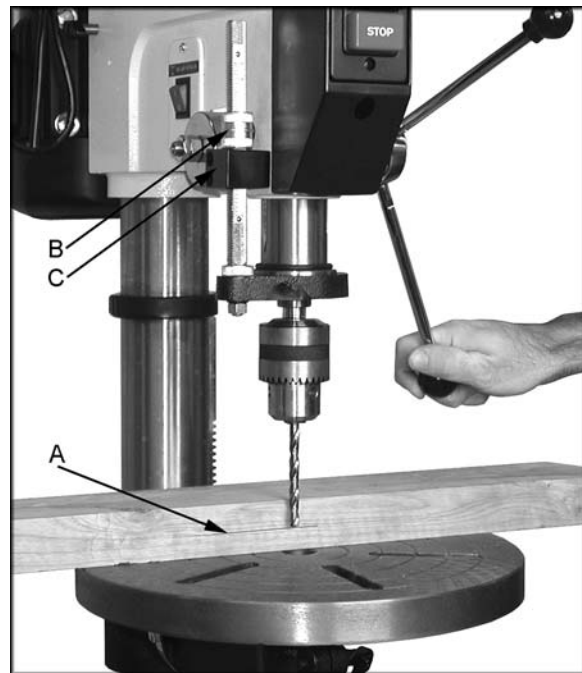

Figure 7
1. Use a pencil to mark the depth the bit will drill into the workpiece (A, Figure 7).
2. With the drill bit in the chuck, lower down feed handle to advance bit to your mark, see Figure 7.
3. With your other hand, advance the lock nuts (B, Figure 7) on the depth stop rod until they are snug to the seat (C, Figure 7).